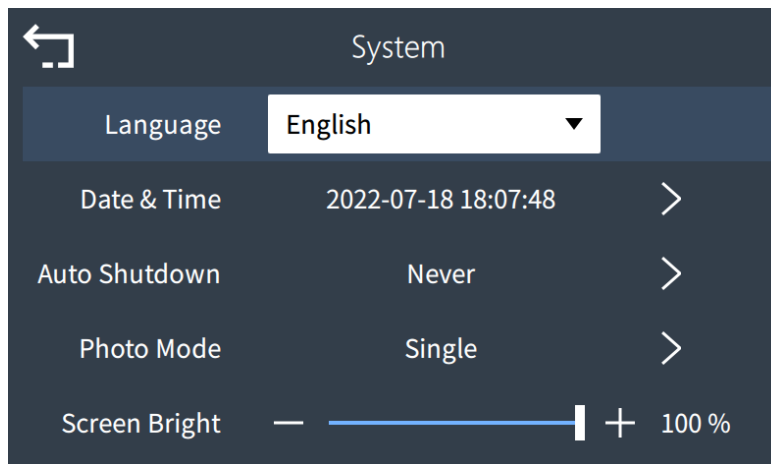

Figure 4.21 System Settings
Step 3: Touch or press the physical button to switch to "System Settings" and press the physical "OK" button to enter the temperature setting interface (as shown in Figure 4.21);